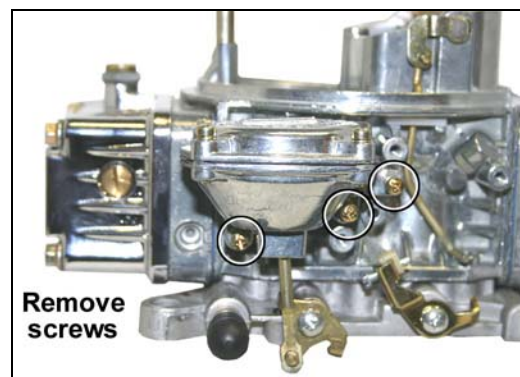

Figure 13
2. Remove three screws attaching secondary vacuum diaphragm to the main body (Figure 13).